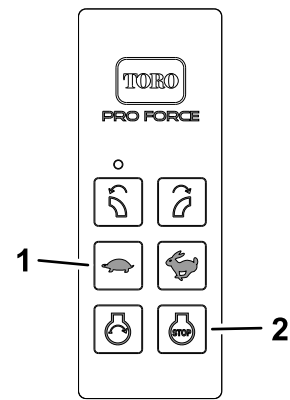

Figure 20
1. Press the DECREASE-ENGINE SPEED button (Figure 20) on the handheld remote to slow engine speed (about 3/4 throttle).
2. Press the ENGINE-STOP button (Figure 20).